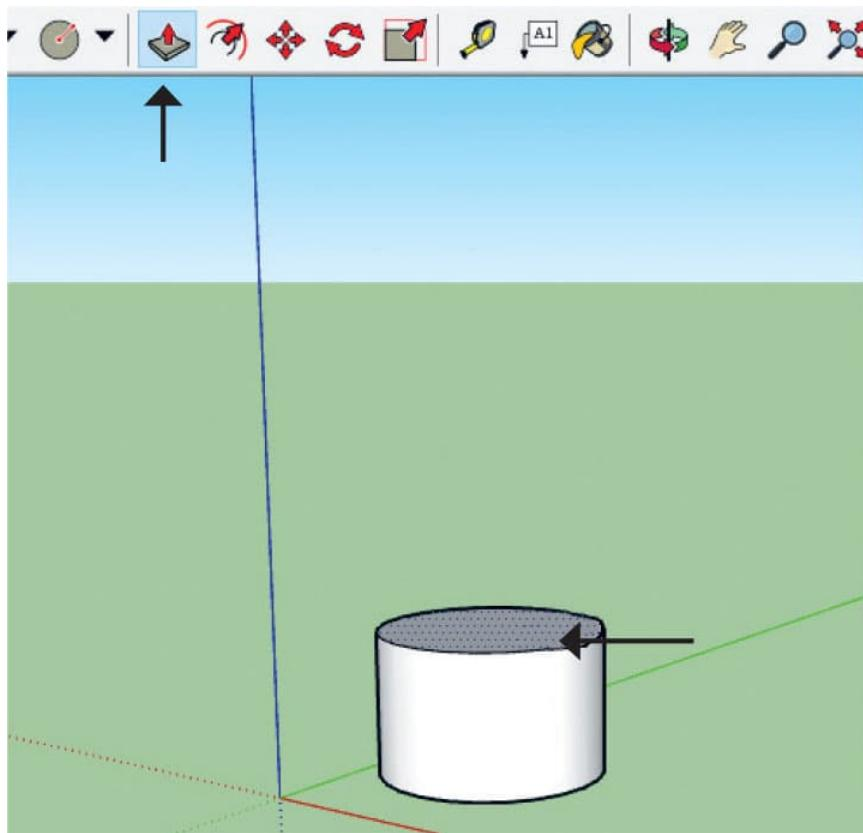

FIG. 5: Stretch the circle into a cylinder.
5. Follow step 2 to extrude the circle to convert it to a cylinder (fig. 5).